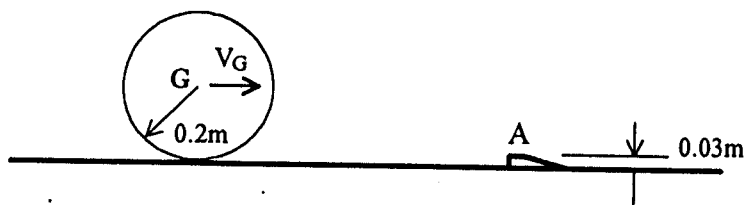

Figure 6.
6. A 10-Kg wheel as shown in Figure 6 has a moment of inertia of $I_G = 0.156 \text{ Kg}\cdot\text{m}^2$. Assuming that the wheel does not slip or rebound, determine the minimum velocity v_G to roll over the obstruction at A.